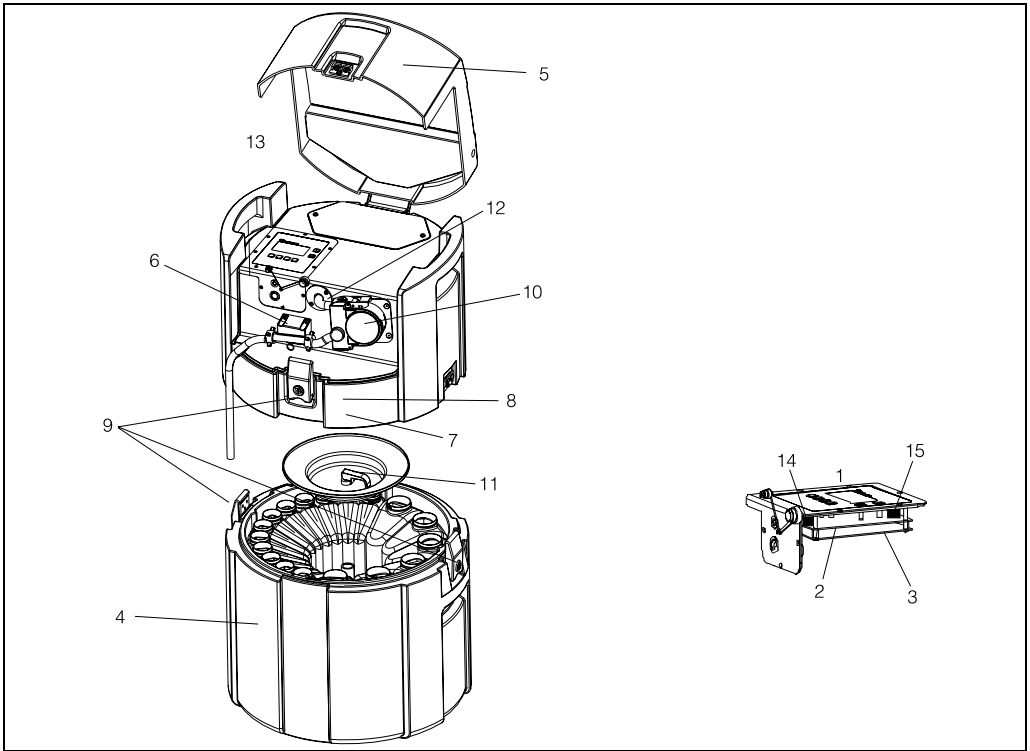

Fig. 34: Spare parts for Liquiport 2000 Ex (item numbers explained in the spare parts list)
A	Controller cpl. (→ Fig. 34, item 1)
B	CPU incl. display (→ Fig. 34, item 2)